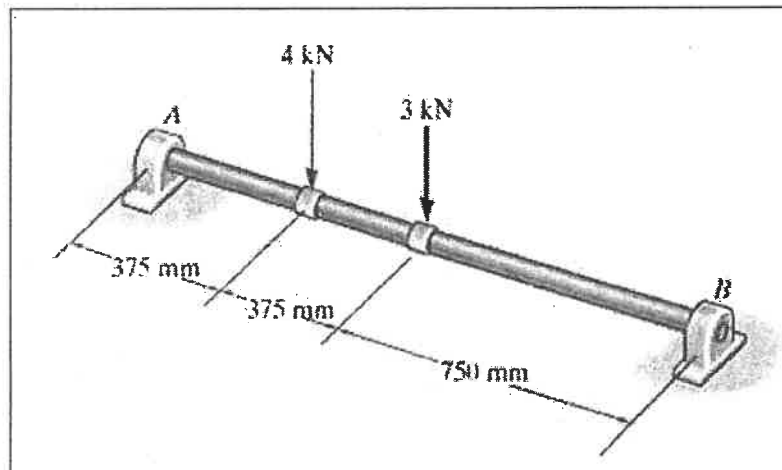

Figure 6
- (b) Figure 6 shows the journal bearing at A and B only support vertical forces that are subjected to the concentrated forces with allowable bending stress is $\sigma_{\text{allow}} = 150\text{MPa}$.